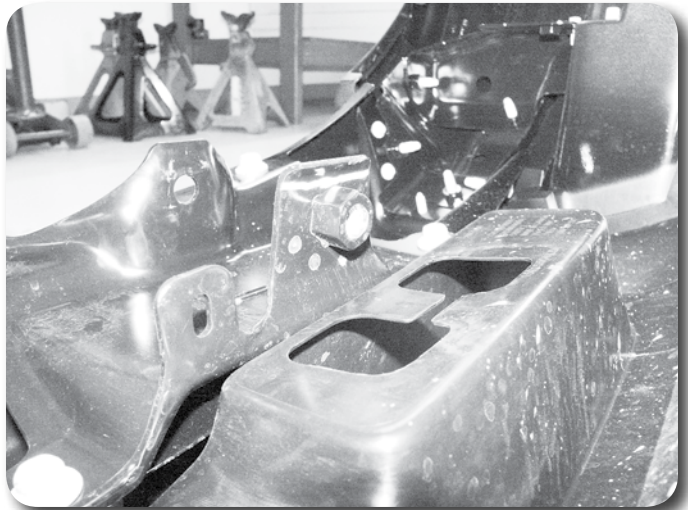

Figure 16
37. Locate the bottom mount tabs on the front bumper where the bumper mounts to the factory bumper brackets. There will be a captive nut attached to the tab. Mark and cut the tab flush with the nut. **Figure 16** Paint bare metal.